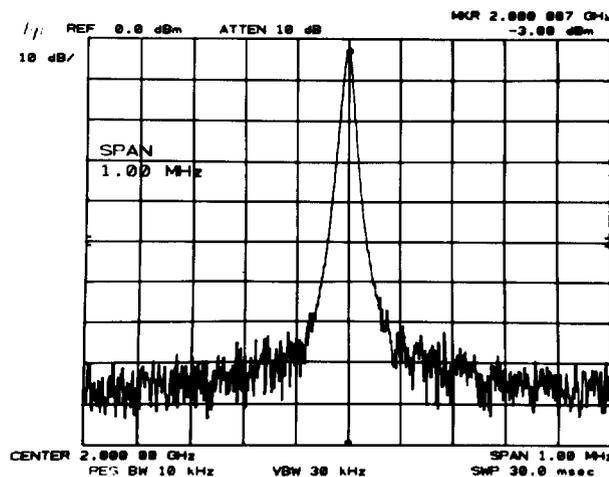

FIGURE 2. CENTER FREQUENCY ACCURACY MEASUREMENT
8. Record the CENTER FREQUENCY readout in the table for each setting. The limits for this frequency are given in the table. Refer to Figure 2.